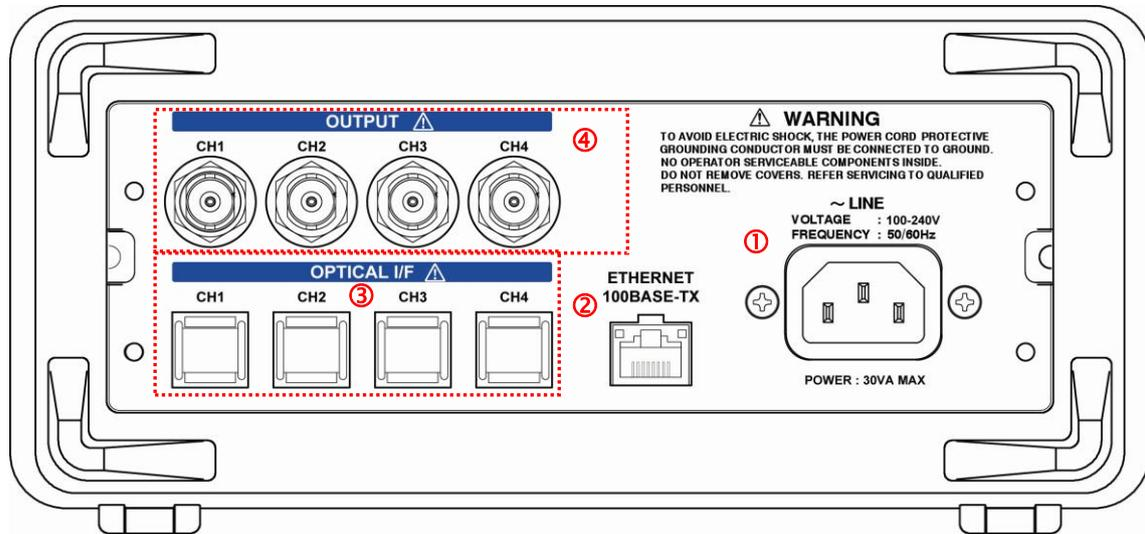

Figure 2.4 Rear panel of SE-6000
①	Rotary knob (Switch)	<p>&lt;When circle around the rotary knob is lit&gt;</p> <ul style="list-style-type: none"> <li>This knob is to select one from among several setting items in the screen menu. You can select an item by rotating the knob clockwise or counterclockwise.</li> <li>You can select a character, number, symbol, or list with this knob for input.</li> </ul> <p>&lt;Regardless of whether or not the circle around the rotary knob is lit&gt;</p> <ul style="list-style-type: none"> <li>It works as a switch to return the menu to the upper level. (Same function as the CLOSE key explained in 2.1.1.1)</li> </ul> <p>You can go up the menu to one upper level every time you push the rotary knob.</p>	2.3.2  2.1.1.1
②	Arrow keys	These are keys to move the cursor to a character, number, or symbol for selection when the circle around the rotary knob is lit.	2.3.2
③	AUTO key	This is a key to set optimal range and offset automatically to the Isolation Unit. This auto function is enabled for the channels CH menu which is displayed.	4.1.1.3
④	Range keys (Upper range/ lower range)	These are keys to change the range of the Isolation Unit. You can change to the upper range by the key with the upward arrow and to the lower range by the key with the downward arrow.	4.1.1
⑤	USB port	<ul style="list-style-type: none"> <li>This is a USB port to insert USB memory for saving and recalling setting conditions.</li> <li>It is also used for firmware update of this instrument.</li> </ul>	4.2, 4.3 4.4.1
Figure 2.4 shows the rear panel of the Isolation Amplifier, and name and functions of each of sections ① to ④ are explained in Table 2.4.